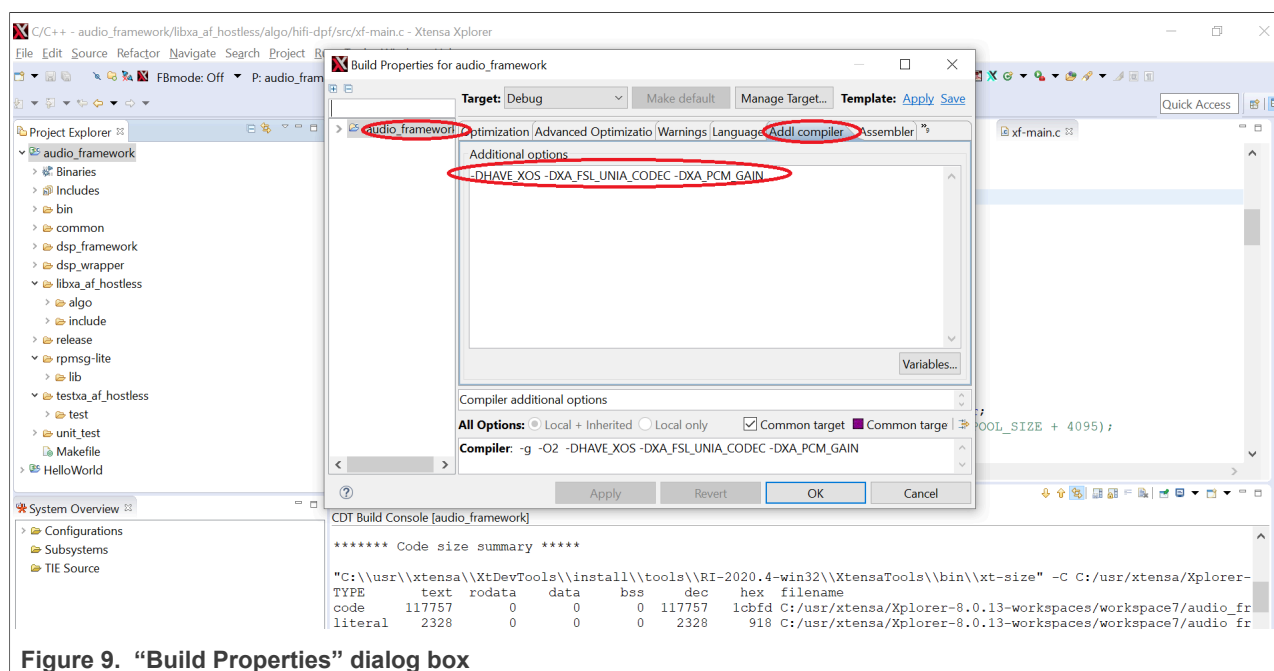

Figure 9. "Build Properties" dialog box
1. Right-click the name of the DSP framework project on the **Project Explorer** panel and select **Build Properties...**. The **Build Properties for dsp_framework** dialog box is displayed, as shown in Figure 9.